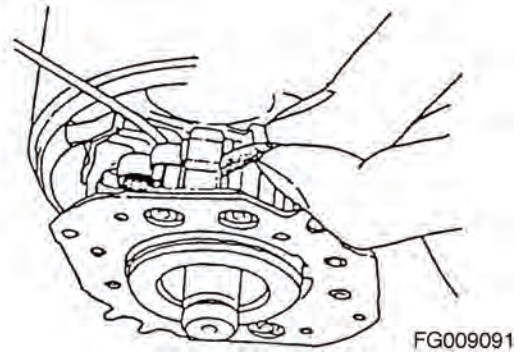

Figure 369
8. Position the brush springs in brush holders (Figure 369). Reinstall the brushes in the brush holders. Reversing the brushes will cause the starter motor to turn backwards.